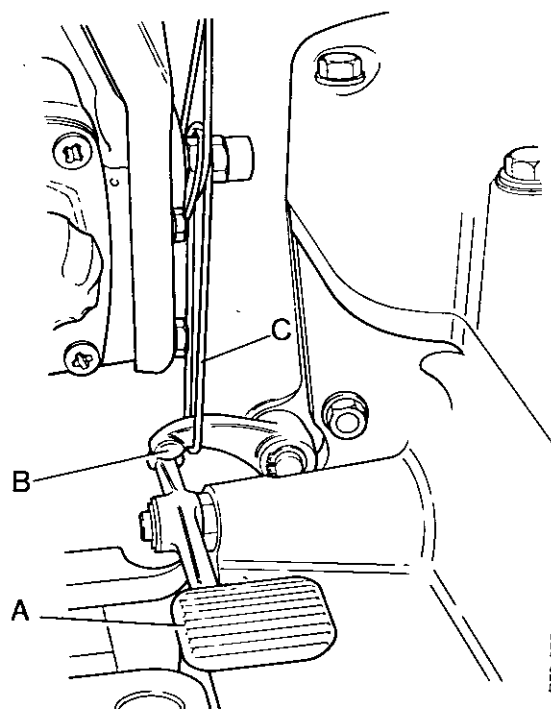

FIGURE 49. DIFFERENTIAL LOCK PEDAL HELD IN ENGAGED POSITION
2. Push down the pedal for the differential lock and use wire to fasten it in this position, see Figure 49.
2. Push down the pedal for the differential lock and use wire to fasten it in this position see Figure 49.